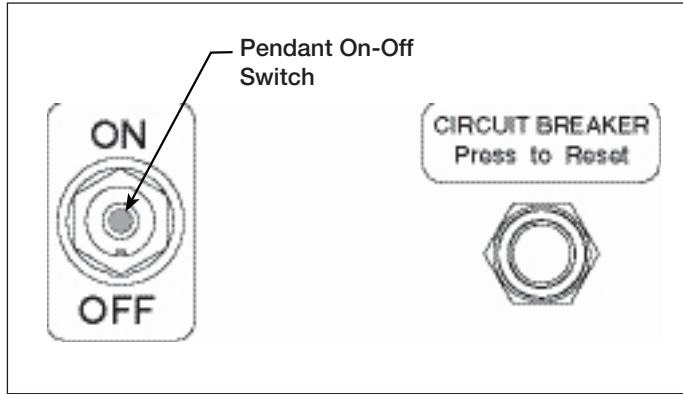

Figure 6, Pump Control Panel
5.1 Pump On-Off Switch (See Figure 6)
4. Connect unit to power. Move the pump on-off switch to ON. See Figure 6.